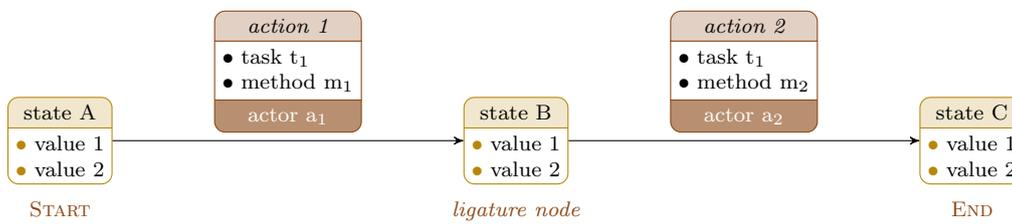

FIGURE 4 Generic Personalised Process Diagram (PPD); *ligature*: {a₁, a₂}
- Personalised process diagrams — PPD_[T] (Figure 4)